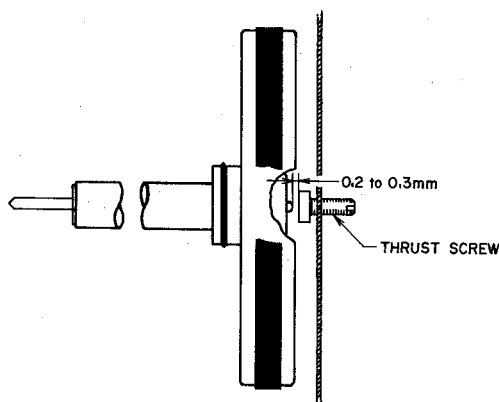

Fig. 6-10
d) FLYWHEEL LOOSE PLAY ADJUSTMENT (Refer to Fig. 6-10)